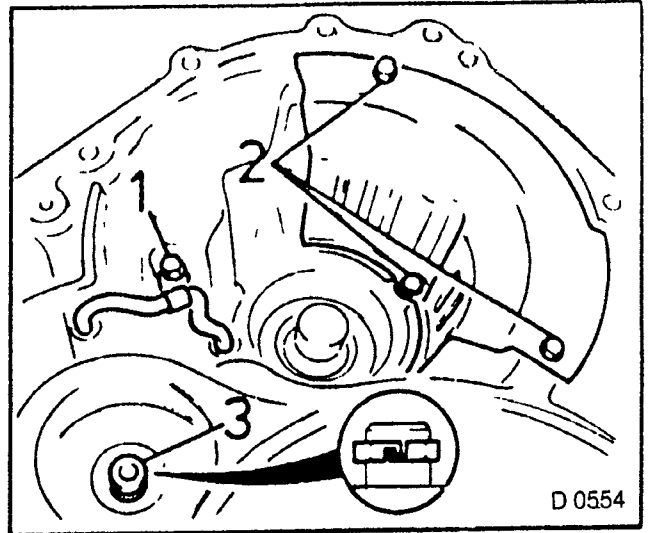

Fig 493
1. Fluid retaining plate — 6 Nm. Three bolts (Fig. 493, Item 2). Three magnets (attach to underside of fluid retaining plate).
2. Pipe clamp to fluid line (Fig. 493, Item 1) — 6 Nm.